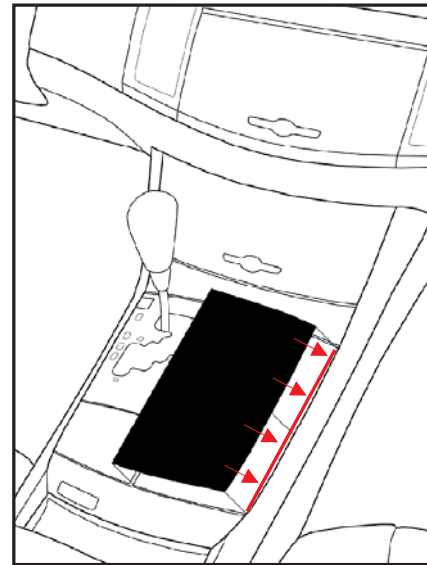

Fig. K1
- ⚠ B. Align part uniformly to edge of factory components. Edge of appliqué should be flush to edge of factory component,  $\pm 1.0\text{mm}$ . (Fig. K1).